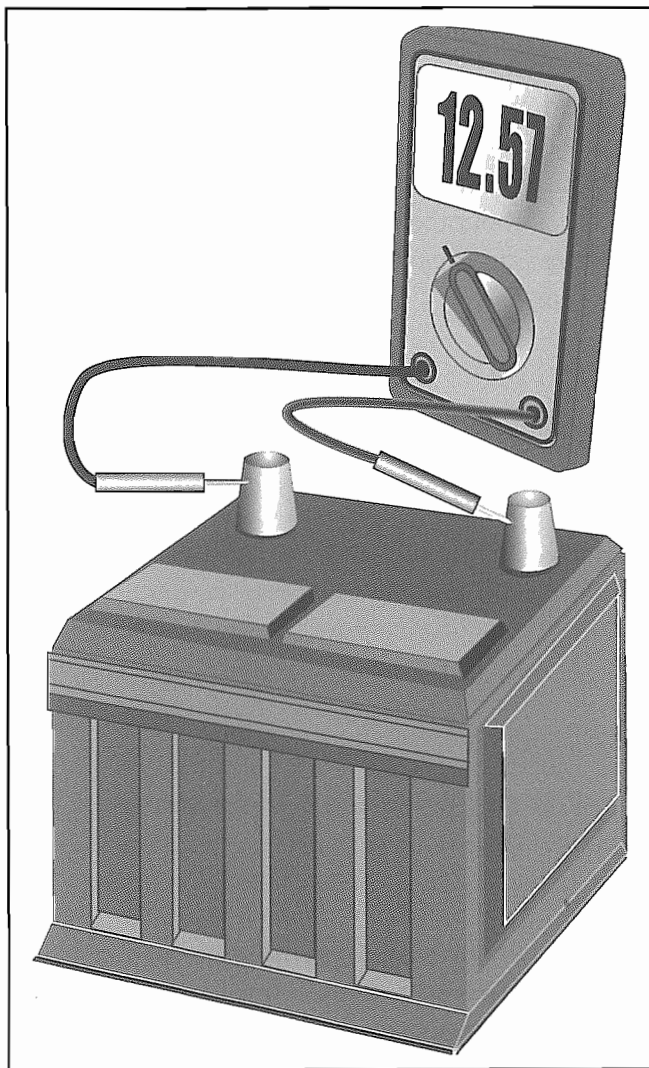

Fig. 4-19. If an engine runs on gasoline, then a computer runs on electricity. If battery post voltage is too low, stop and find out why.
- **Check the battery condition, charging rate, and voltage drops at the main engine and chassis grounds.** Don't shortcut this part or you may get bitten in the backside. These tests are more important than ever. Both the engine management and OBD II systems must have steady voltage at acceptable levels, and good grounds. It takes less than five minutes to check battery post voltage (Fig. 4-19), charging voltage, and the engine and main chassis grounds. It is the wisest investment of time you can make.